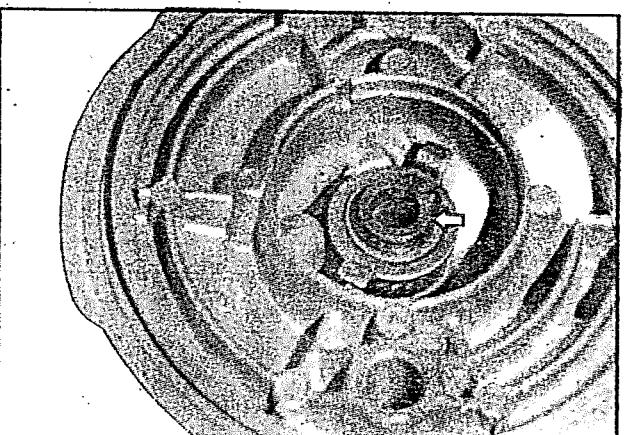

Fig 6.10
- Remove the circlip by using the special tool and remove the speedometer gear (fig 6.10)